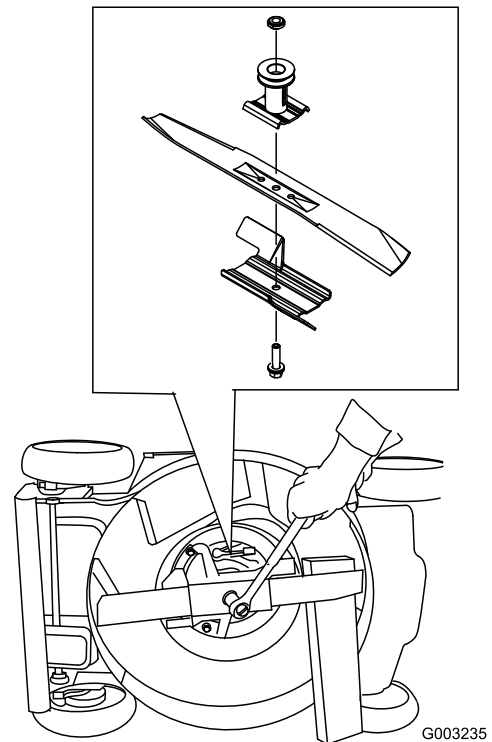

Figure 36
3. Use a block of wood to hold the blade steady (Figure 36).